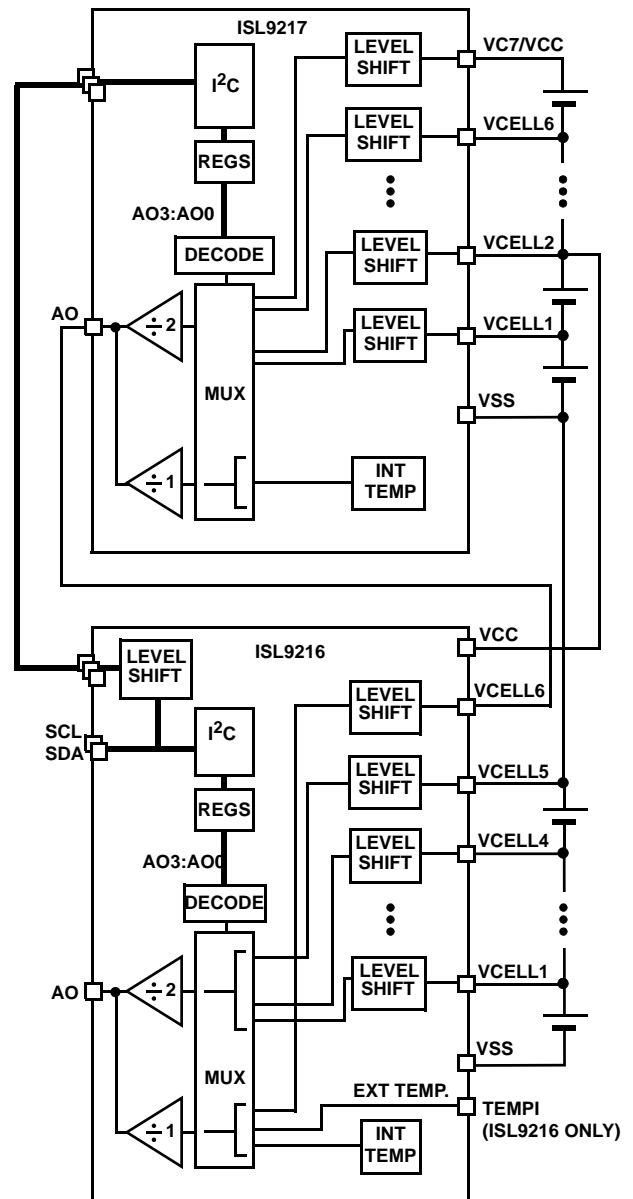

FIGURE 6. ANALOG OUTPUT MONITORING DIAGRAM
The ISL9216 and ISL9217 devices can be used to externally monitor individual battery cell voltages and temperatures. Each quantity can be monitored at the analog output pin (AO) and is selected using the I²C interface. See Figure 6.